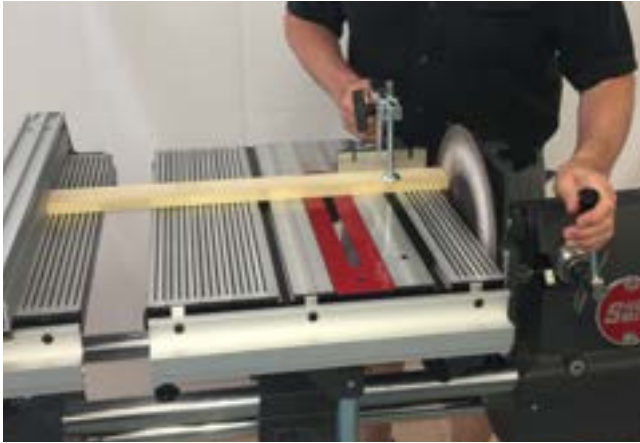

Figure C-19
3. If you're using the quill feed, advance the disc until it contacts the stock. Hold it there for a few seconds, back it off, and feed it forward again. See Figure C-19.